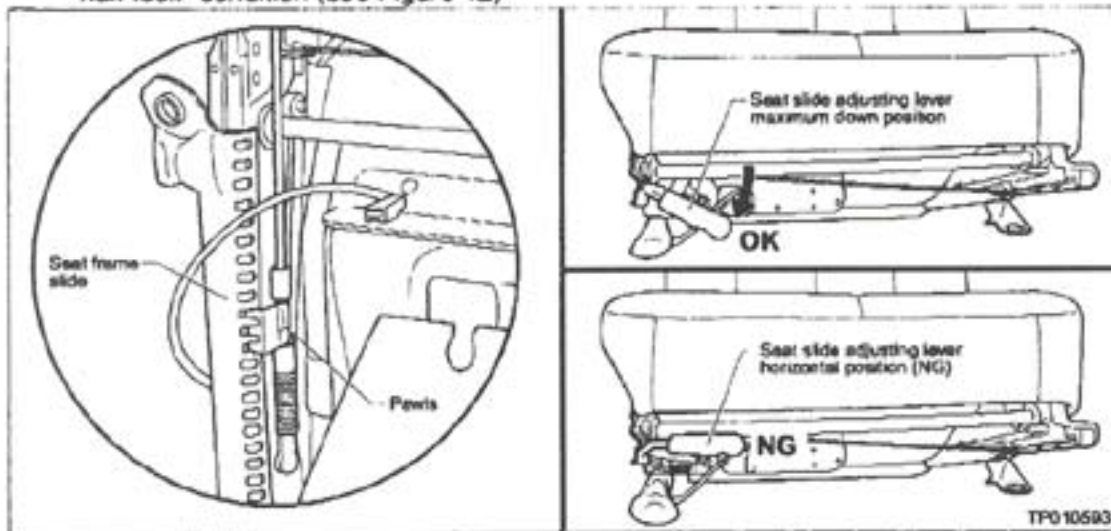

Figure 12
Note: Check the seat slide adjusting lever is in the downward maximum position to ensure the pawls on the seat sliders are in locked position. This will prevent seat "half-lock" condition (see Figure 12)
- C. Slide the seat towards the maximum forward position. Ensure the seat slide adjusting lever is in the downward maximum position to ensure the pawls on the seat sliders are in locked position (see Figure 12 above).